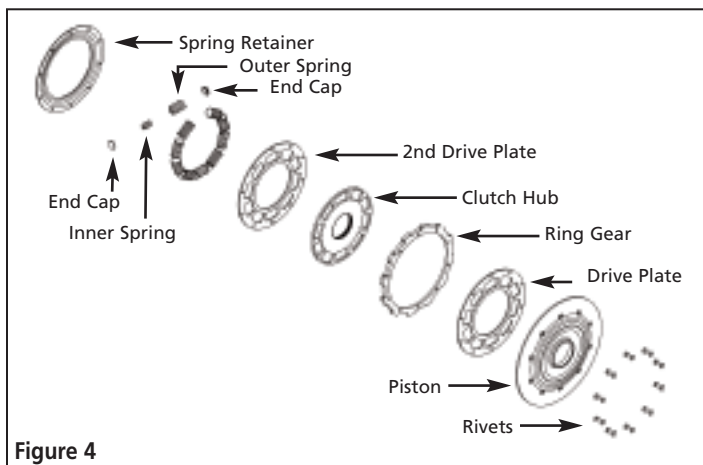
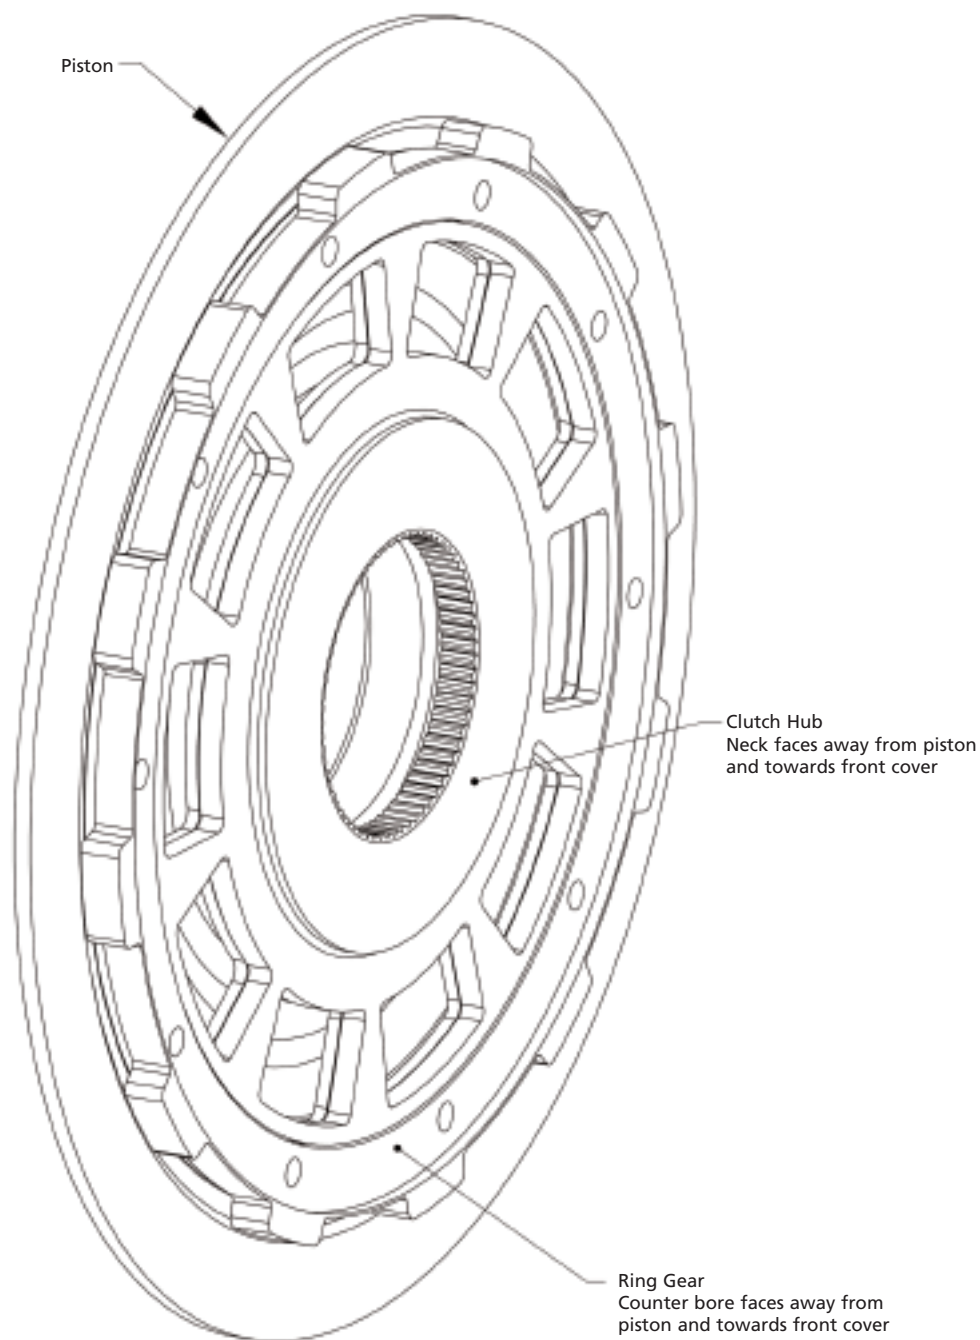

Figure 4
Figure 6
The piston/damper unit (Figure 4) comes unassembled so it can be tuned to match the amount of engine torque. The damper can be tuned to work with engines producing 625 ft-lb up to 1250 ft-lb of torque.
17. Place the piston with the lock-up surface facing up. Stack up in this order: drive plate, ring gear with the counter bore facing up, clutch hub with the neck of the hub face up (see Figure 4 and Figure 6 located on page 4), and the second drive plate. Make sure to line up the rivet holes and spring pockets. (It might be helpful to use a pair of long 1/4" bolts to aid lining up the rivet holes.)